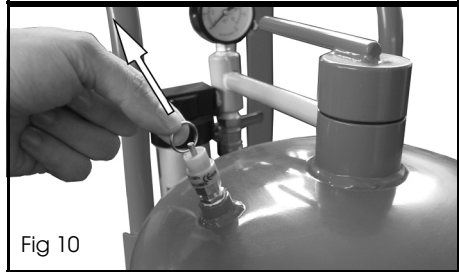

Fig 10
3. Test the safety valve by pulling up on the valve as shown in Fig 10.